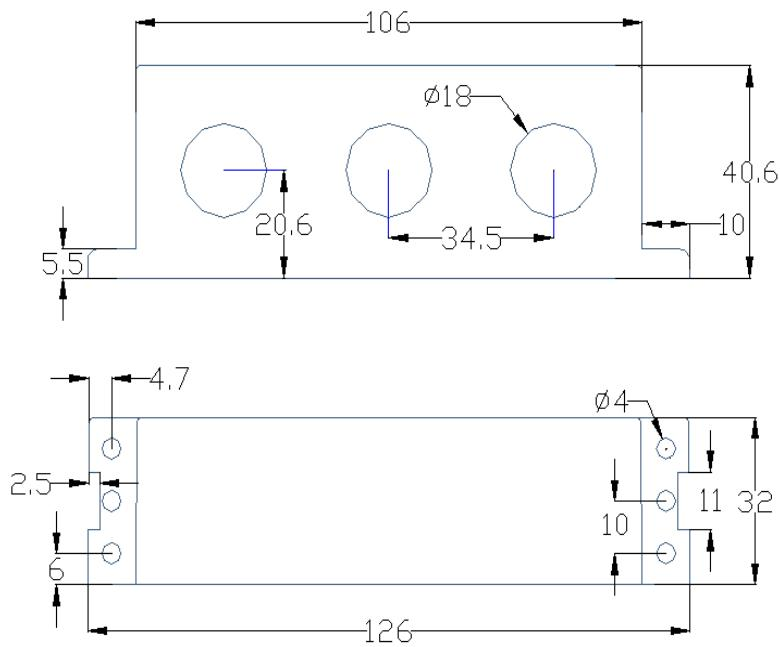

Fig. 5 External dimensions of current transformers with specifications below 100A
5.4 The external dimensions of current transformers of 100A and the following specifications are shown in FIG. 5 (unit: mm) ::